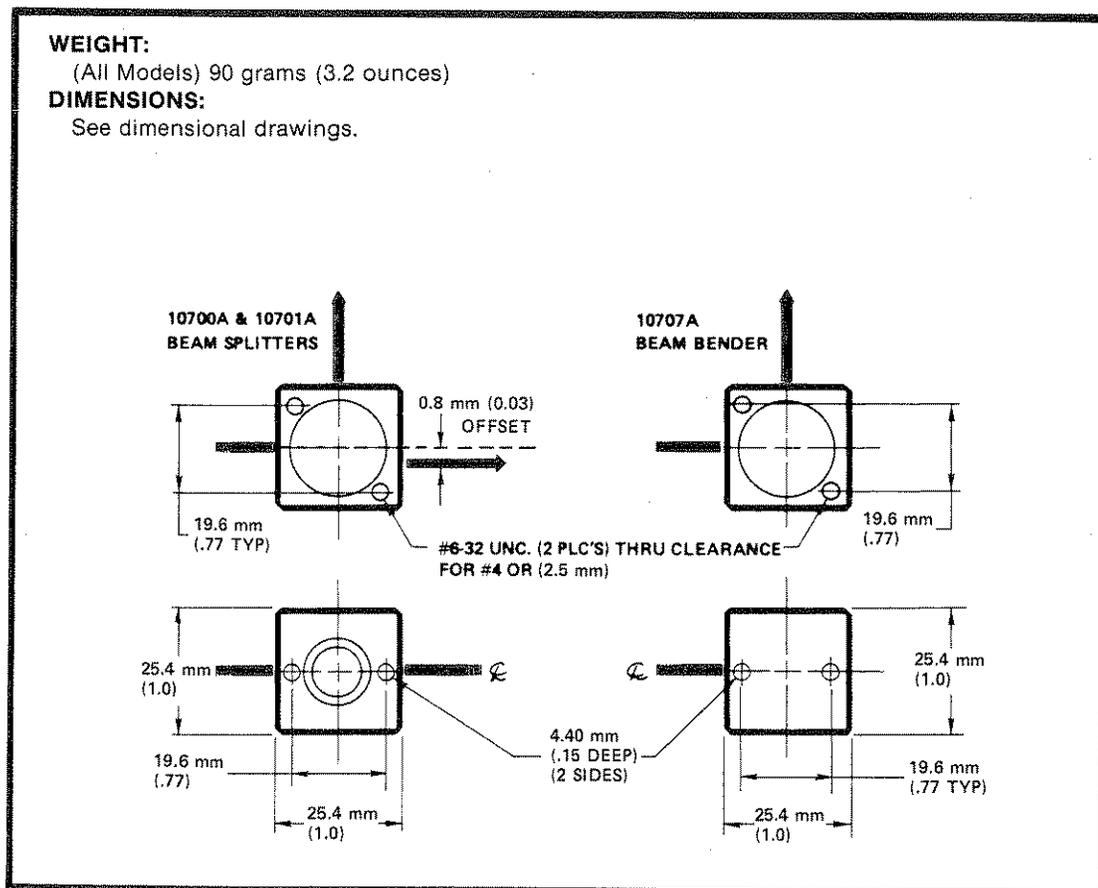

Figure 2-18. Splitting and Bending Optics (10700A, 10701A, and 10707A) Specifications
The thickness of the 10711A mount is such that the beam centerline corresponds to the lower part of the 10701A or 10706A interferometers. To be in line with the center of the interferometer a spacer 6.4 mm ($\frac{1}{4}$ inch) thick has to be added to the laser head, or to be in line with the upper part, a 12.7 mm ($\frac{1}{2}$ inch) spacer is needed. Also remember as the beam goes through a beam splitter, the exit beam is slightly offset downward (or to the side if the beam is bent in the horizontal axis) by 0.8 mm (.03 inch). See *Figure 2-18*.
- Splitting and Bending Optics (10700A, 10701A, and 10707A) Specifications, see *Figure 2-18*.